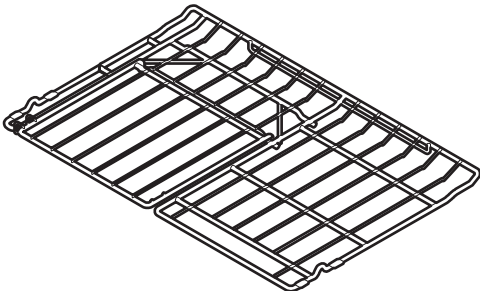

Figure 3 - Models B & C only
- **Flat oven half rack** (Models B & C only- Figures 3 & 4).